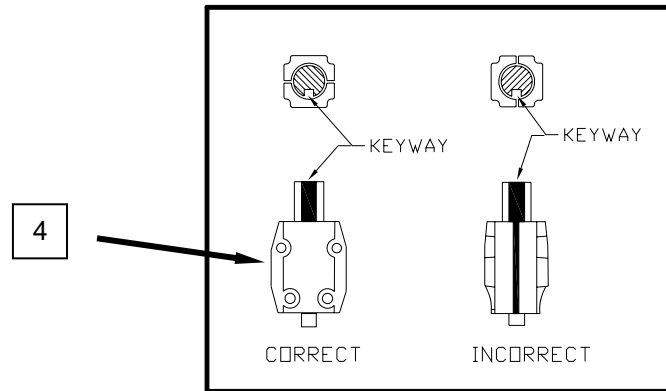

Figure 8. Aligning the Coupling Keyway.
19. Install the coupling halves (**Figure 8, Item 4**) and secure in place with bolts. Align motor shaft keyway (**Figure 8, Item 4**).